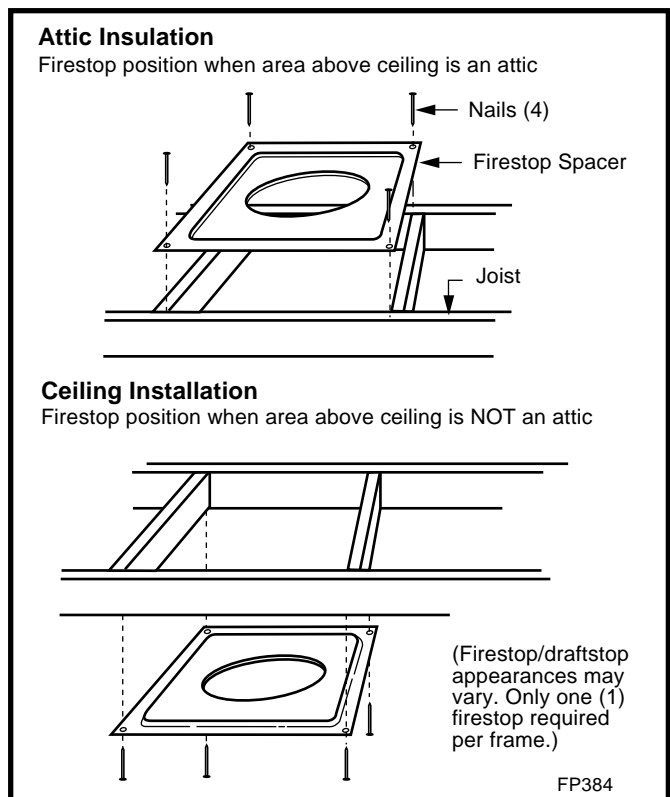

Fig. 8 Firestop/draftstop positions.
For firestop positioning, refer to Figure 8. Only one (1) firestop required per frame. **NOTE:** A firestop is not required at the roof.